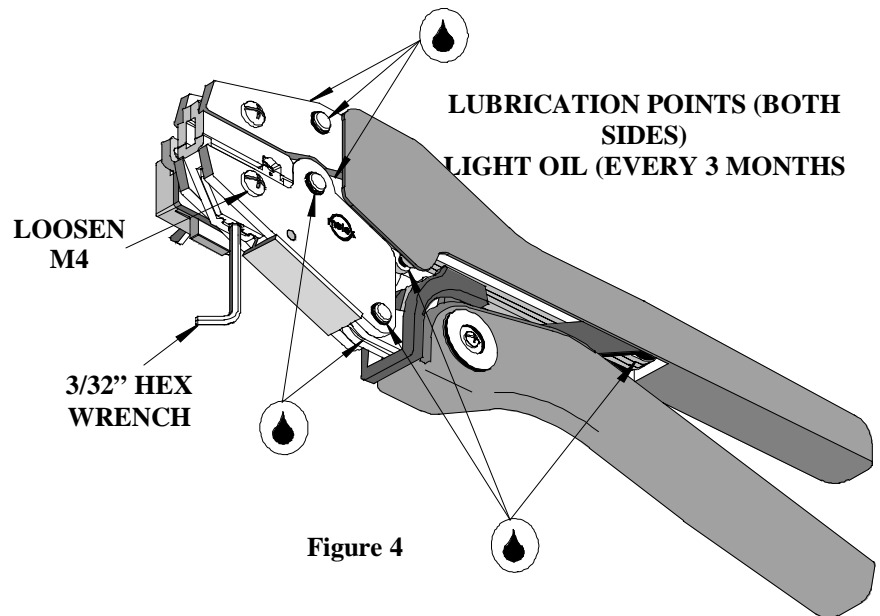

Figure 4
4. If the insulation part of the crimp needs to be adjusted, first loosen the M4 screw on the bottom tool jaw, then insert a 3/32 hex wrench (supplied) into the bottom of the lower die (See Figure 4). A clockwise
3. Make certain all pins, pivot points and bearing surfaces are protected with a thin coat of high quality machine oil. Do not oil excessively. The 64001-1600 (RHT-2200HD) was engineered for durability, but like any fine piece of equipment it needs cleaning and lubrication for a maximum service life of trouble-free crimping. A light oil, such as 30 weight automotive oil used at the oil points shown in Figure 4, every 5,000 crimps or 3 months will significantly enhance the tool life and ensure a stable calibration.